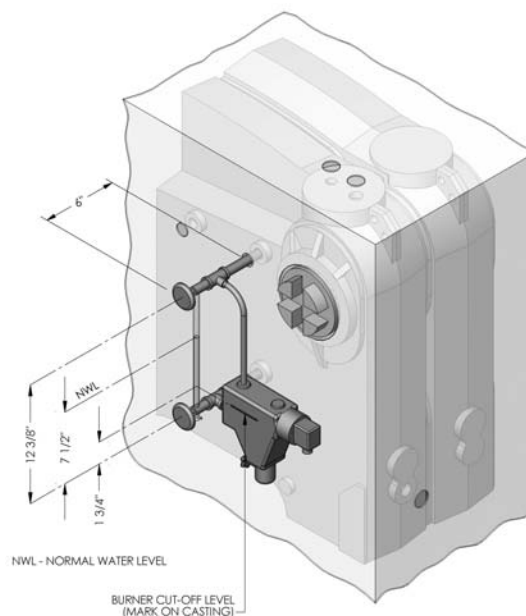

Figure 3.19: Optional Model 67PE2 Low Water Cutoff
- For correct positions of common Float-type LWCO devices see Figures 3.19 through 3.22.